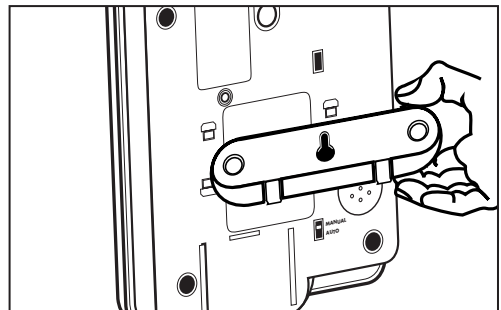

Figure 6 - Phone Base for Wall Mounting
2. Insert the tabs of the phone base into the slots in the lower position of the base as shown in Figure 6. Push the phone base in and down firmly until it snaps into place.